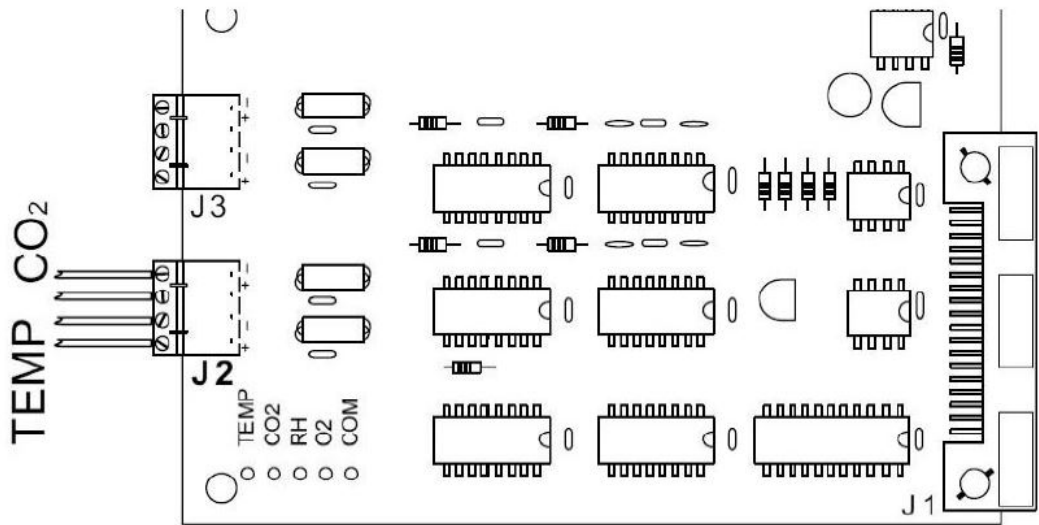
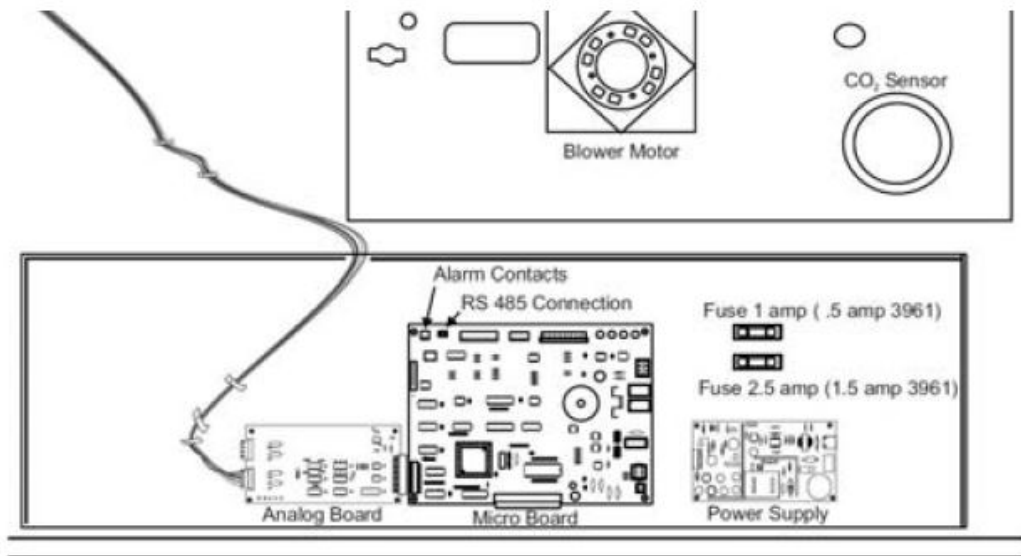

Figure 5-8 Connectors on Board
Figure 5-9 Board Location in Drawer
3. Strip the ends of the conductor and wire it to the appropriate terminals of connectors J₂ on the analog board. Refer to Figure 5-8 on page 5-6.
4. Route the wires through the auxiliary hole located on the back of the unit. See Figure 5-8 on page 5-6 for the location of this hole and Figure 5-9 on page 5-6 for routing details.